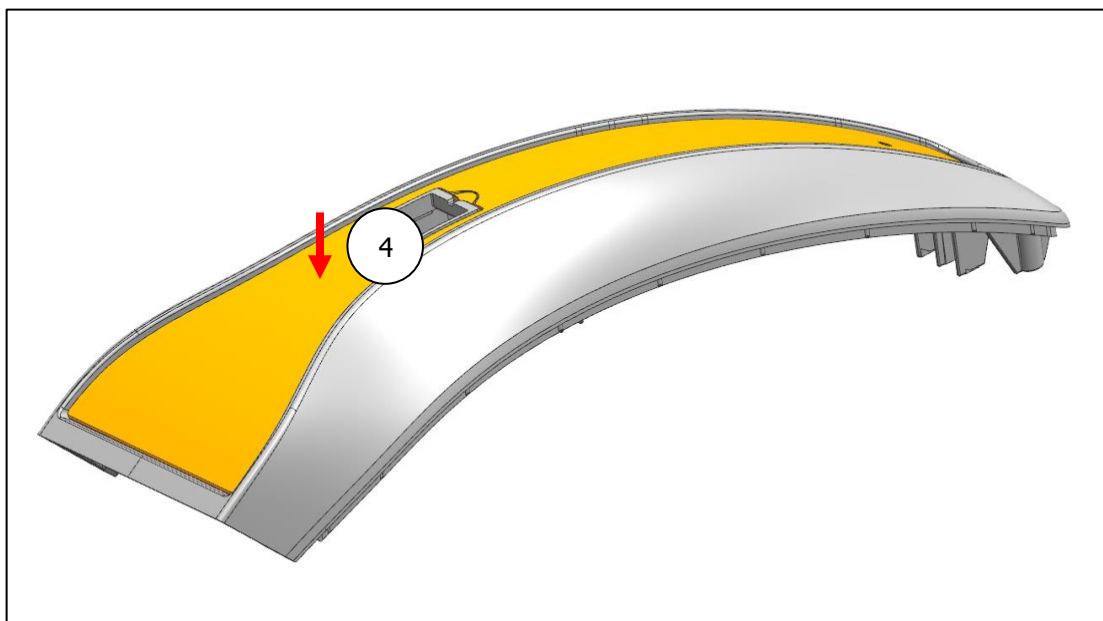

Fig. 24
- d) Press the cover into its final position, until the locking hooks near to the switch recess audibly snap into place (Fig. 24).